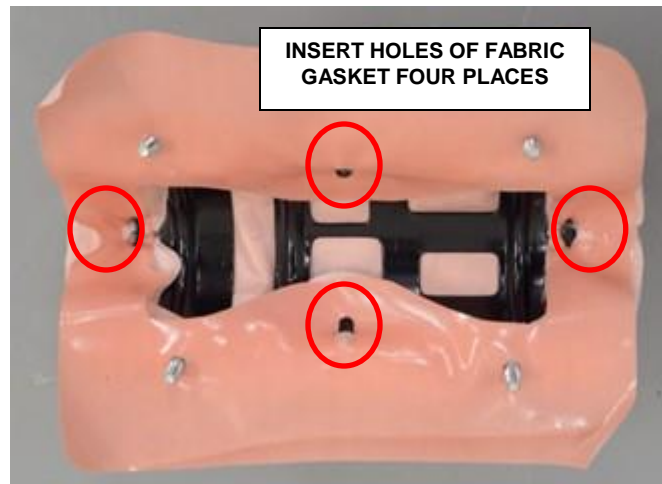

Figure 24 – Fabric Gasket
- i. With the help of a trim tool insert the holes of fabric gasket, four places (Figure 24).